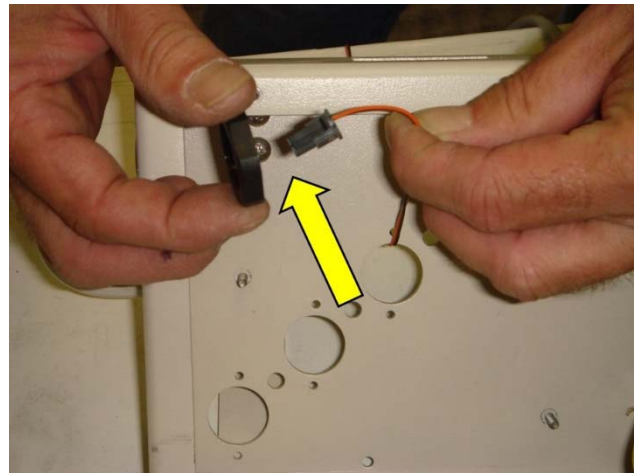

Fig. 8
10. Once the tubing is through the hole, re-string the black plastic nut onto the strain relief and turn clockwise using needle-nose pliers. (Fig. 8)